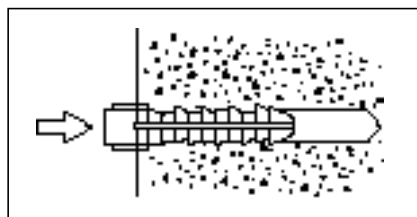

Figure 3
2. Insert the plastic anchor as shown in Figure 3 below: